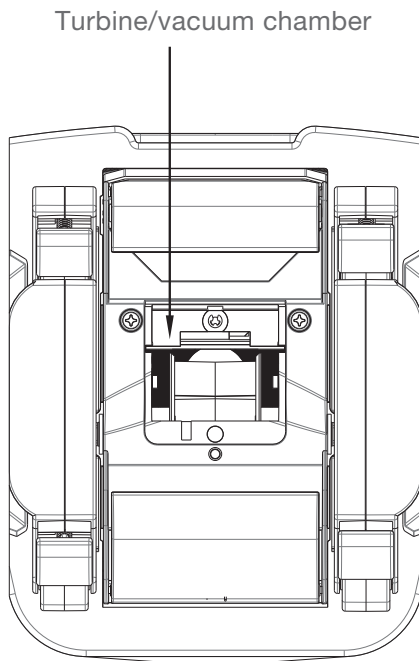

Fig. 17
7. Clean turbine/vacuum chamber (see Fig. 17).